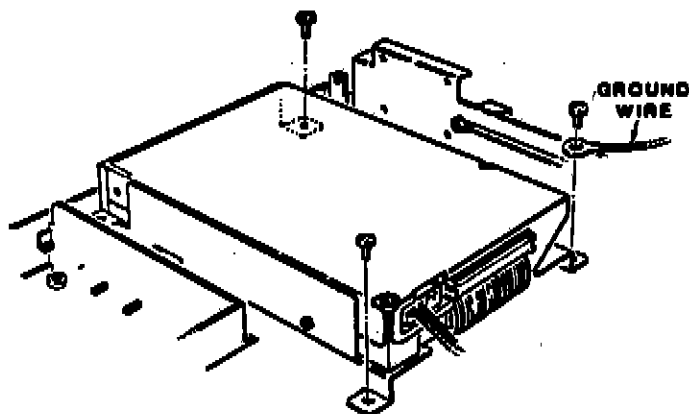

Figure 3-8. Floppy Drive B Screws
Refer to Figures 3-8 and 3-9 for the following steps.
2. Remove the three screws from the drive B mounting holes, as shown in Figure 3-8. Set the screws aside.